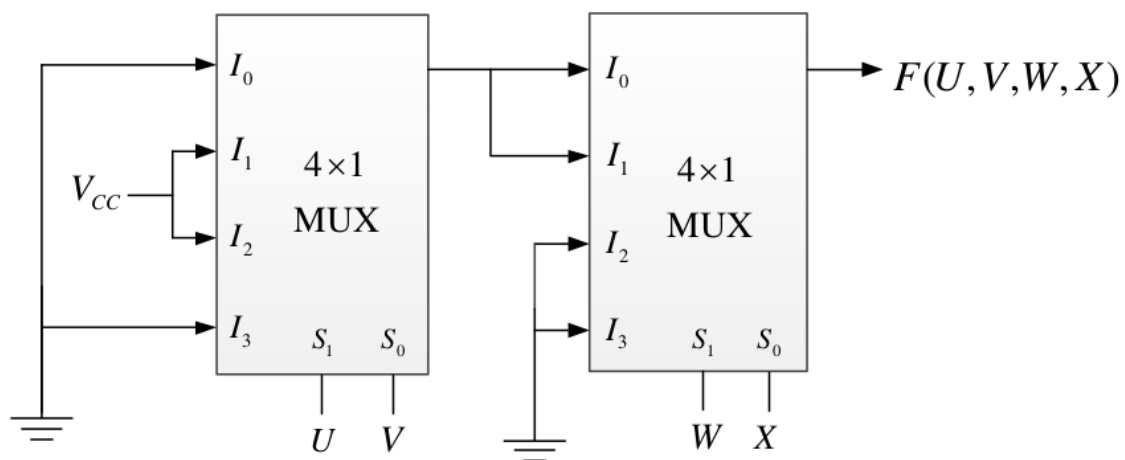

Figure 3.9:
22. Find the logic function implemented by the circuit given below in Fig. 3.9 (GATE EC 2018)